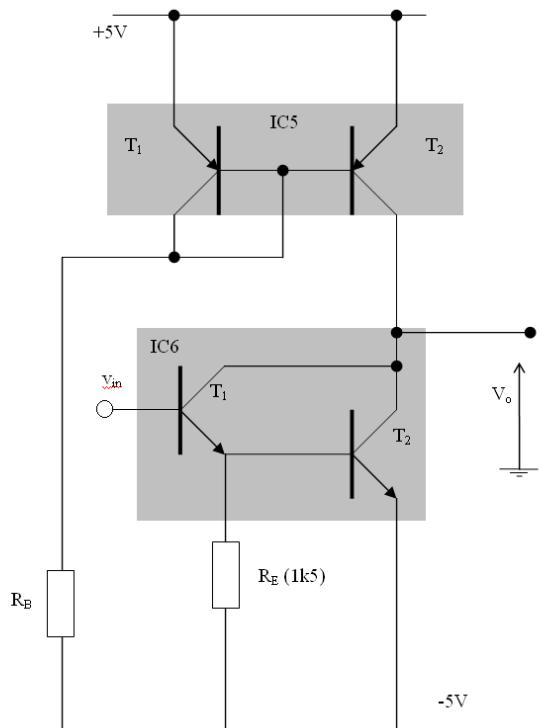
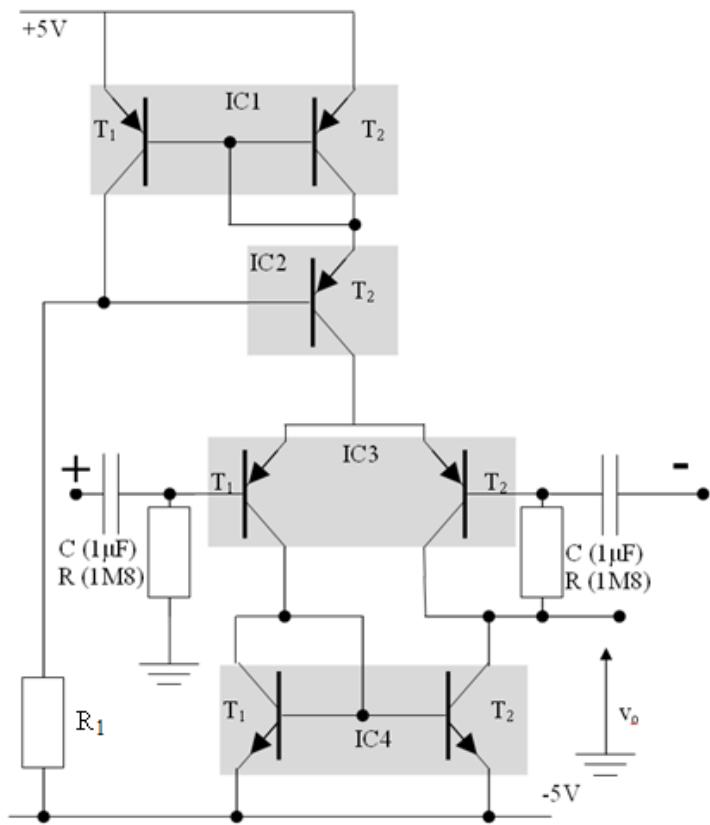
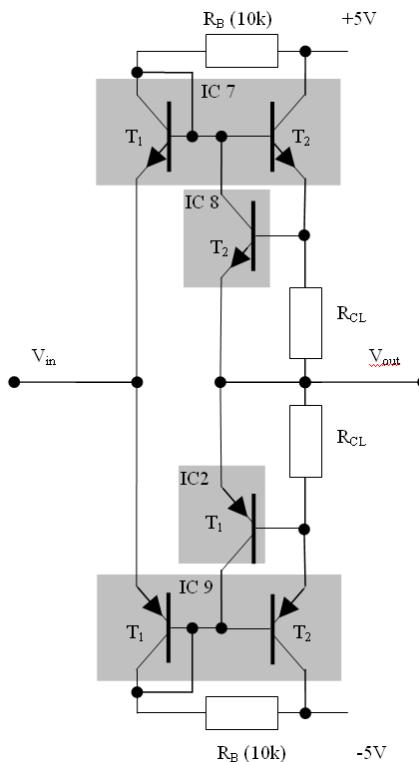

Figure 10 Darlington connection, with active load
Figure 13 Complete input stage
Figure 16 Current limiting circuit
The Darlington connection is shown in Figure 10, replacing the single CE transistor  $T_{2(6)}$  (hence we can keep the same old value of  $R_B$ ).
In the high voltage gain circuit (Figure 13), the simple current mirror (met earlier in section 5, but now in NPN format) performs two functions:
Consider the top half of the power amplifier (Figure 16): when  $T_{2(7)}$  is active and conducting current through the load,  $T_{2(8)}$  will remain off.  $T_{2(8)}$  will only come on when the current through resistor  $R_{CL}$  is sufficient to cause a voltage drop of greater than about 0.6V, and hence forward bias  $T_{2(8)}$ .  $T_{2(8)}$  will conduct and 'rob' current from the base of  $T_{2(7)}$ . The load current will thus remain fixed at approximately  $0.6/R_{CL}$ . This is the output current limit of the amplifier and is set by resistor  $R_{CL}$ .
So far you have been exposed to some of the basic analogue building blocks. We shall now see how these blocks can be arranged and connected together to form a complete op-amp. Block (1) is the differential input amplifier (see Figure 13). Block (2) is the high gain single-stage amplifier (see Figure 10), and block (3) is the output stage power amplifier (Figure 16). Before we connect the blocks together there are certain biasing components to be removed, as these were only required for stand-alone testing.
- i. In Block (1) (Figure 13) remove the two 100k resistors and the input capacitors ( $1\mu F$ ).
- ii. In Block (3) (Figure 16) remove the two  $R_B$ 's (10k).
- iii. Connect the output of Block (1) to the input of Block (2) ( $V_{o1}$  to  $V_{in2}$ ). This creates the very high differential gain stage of the op-amp.